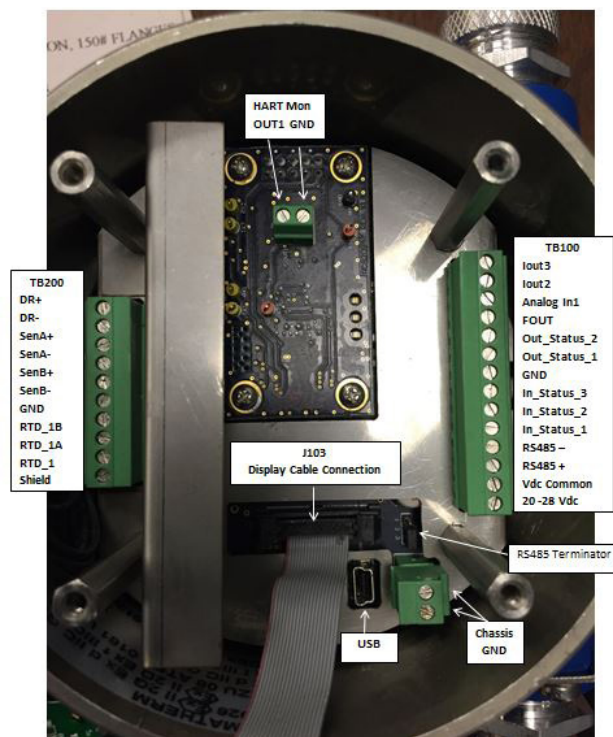

Figure 34: Wiring reference: RCTX with display shown and display board removed for clarity
1. Connect an 18...28V DC Class 2 power source as illustrated in the schematic in *Figure 34*. Terminal blocks in the RCTX accommodate wire gauges up to 16 AWG.
TB100 (See *Figure 34*.)